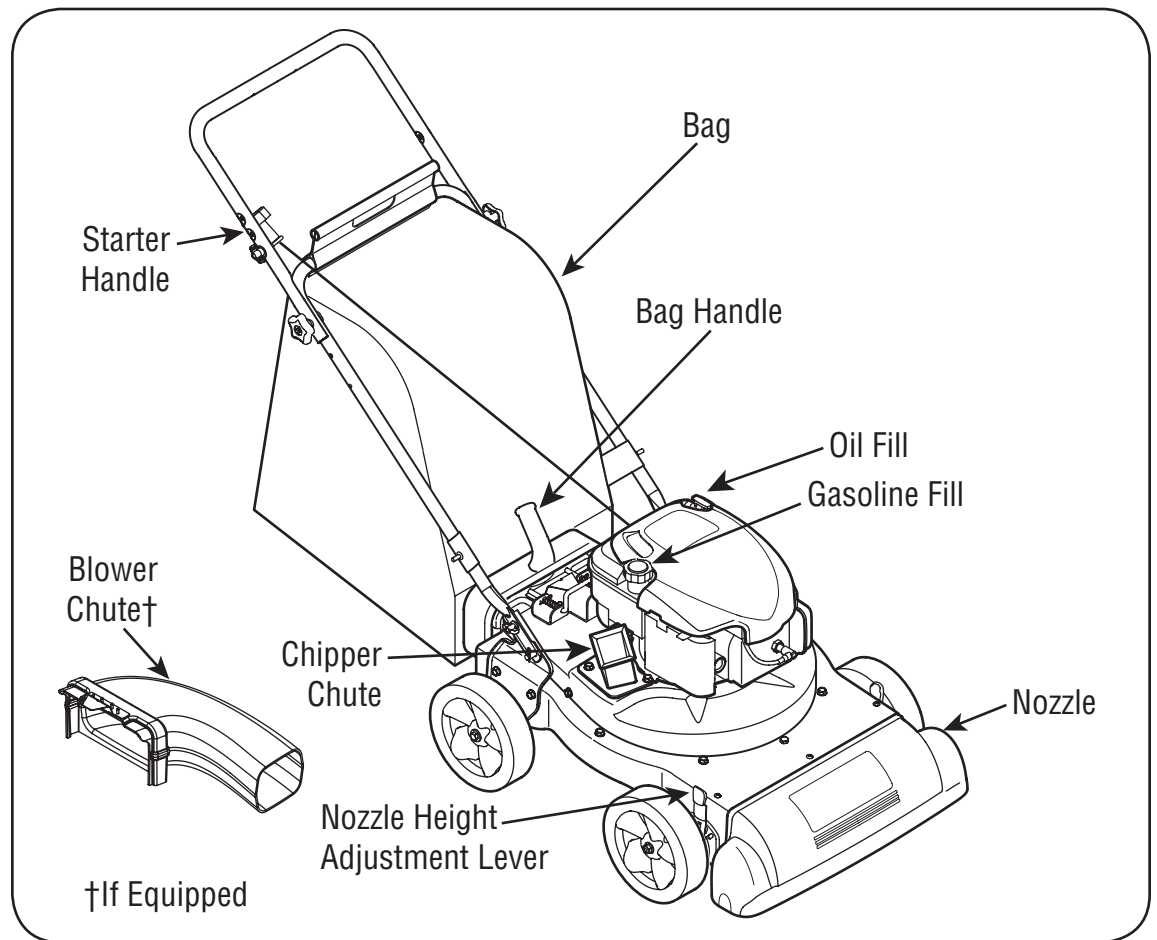

Figure 4-1
Allows twigs and small branches up to 1-1/2" in diameter to be fed into the impeller for chipping. See Figure 4-1.
Used to grasp bag in order to assist in attaching, removing, and emptying bag. See Figure 4-1.
The starter handle is attached to the right upper handle. Stand behind unit and pull the starter handle to start engine. See Figure 4-1.
1. Check oil level and add oil if necessary. Follow engine manual for this. See Figure 4-1 for location of the oil fill.
2. Service the engine with gasoline as instructed in the engine manual. See Figure 4-1 for location of gas fill.